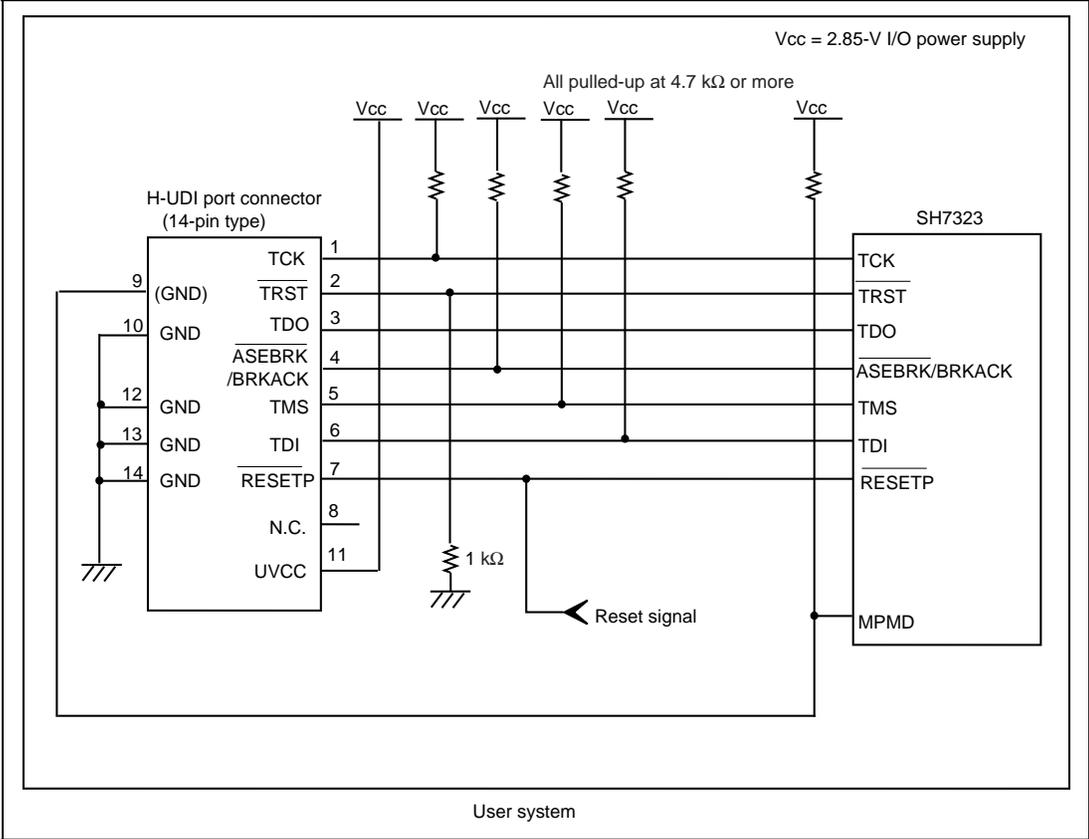

Figure 1.4 Recommended Circuit for Connection between the H-UDI Port Connector and MPU when the Emulator is in Use (14-Pin Type)
Figure 1.4 shows a recommended circuit for connection between the H-UDI and AUD port connectors (14 pins) and the MPU when the emulator is in use.
7. The resistance values shown in figure 1.4 are reference.
When the circuit is connected as shown in figure 1.4, the switches of the emulator are set as SW2 = 1 and SW3 = 1. For details, refer to section 3.8, Setting the DIP Switches, in the Debugger Part of the SuperH™ Family E10A-USB Emulator User’s Manual.